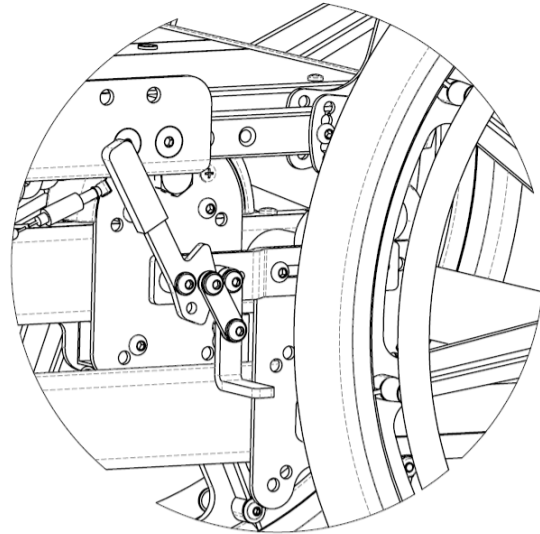

Figure 14.36: Pull to Lock Wheel Locks
2. To engage the pull to lock wheel lock (see Figure 14.36), pull the lever towards the wheel until it locks into place.